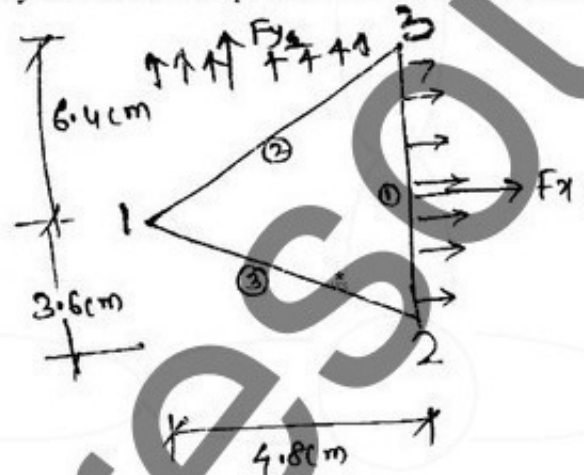

Fig.Q8
- 8 ACST element as shown in Fig.Q8 gets axial loading of $(F_{x1}) = 10 \text{ kN/m}$ in x-direction and $(F_{y1}) = 20 \text{ kN/m}$ in y-direction. Compute the nodal loads in the element.